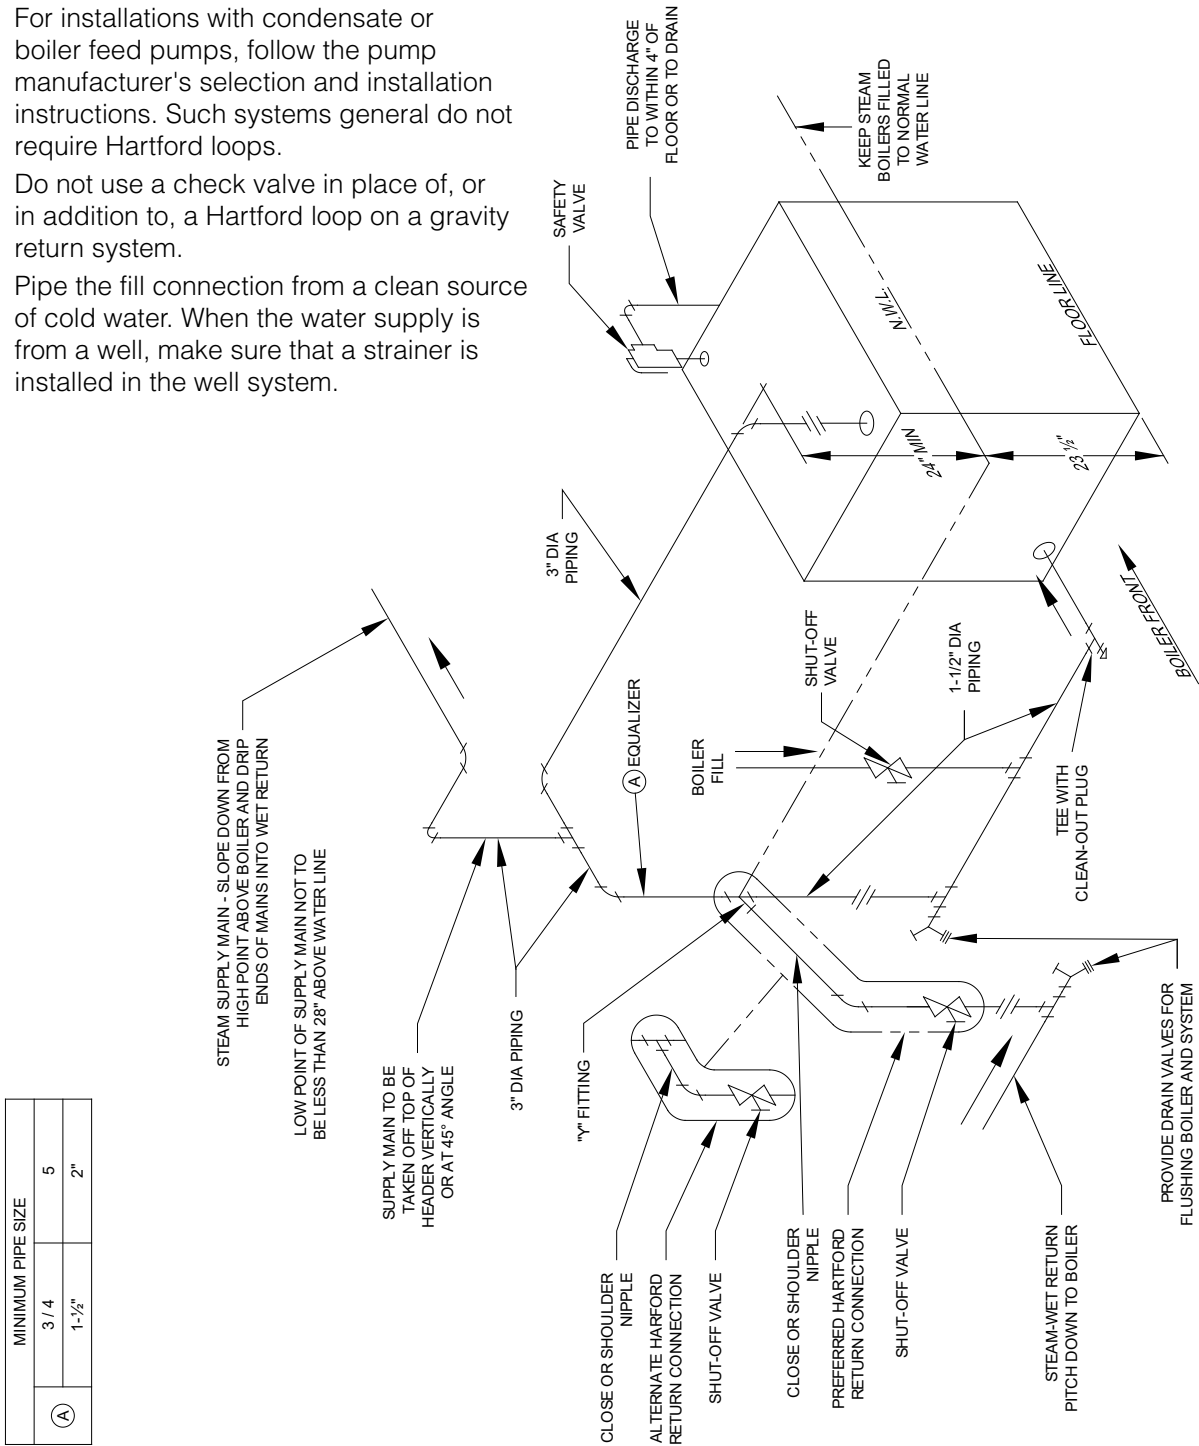

Figure 4-1: Recommended Boiler Piping for Gravity Return Steam Boiler
1. Figure 4-1 shows recommended near boiler piping for most common types of gravity return steam systems. Additional information on steam system design may be found in the I=B=R Guide RHH published by the Air-Conditioning Contractors of America (ACCA).